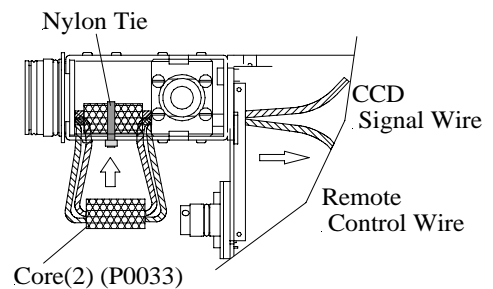

Fig.5-2-3
- 1) Pass CCD Signal Wire and Remote Control wire through the EMI Core refer to showing Fig.5-2-3.